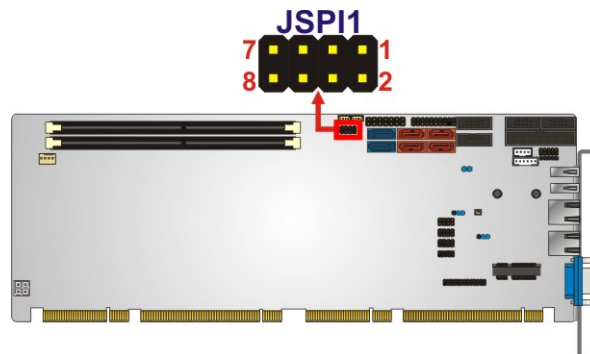

Figure 3-20: SPI Connector Location
- CN Location:** See **Figure 3-20**